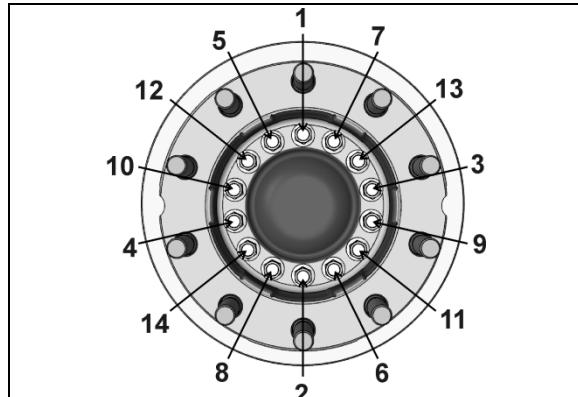

FIGURE 23: HUB FLANGE HEX CAP SCREW TIGHTENING SEQUENCE
12. Secure hub flange and rotor to unitized hub bearing using 14 hub flange cap screws. Torque to 183 ± 9 lbf-ft. Refer to FIGURE 23 for tightening sequence. **NOTE: discard bolts that start to show signs of deformation in the threaded area or beneath the head of the bolt.**